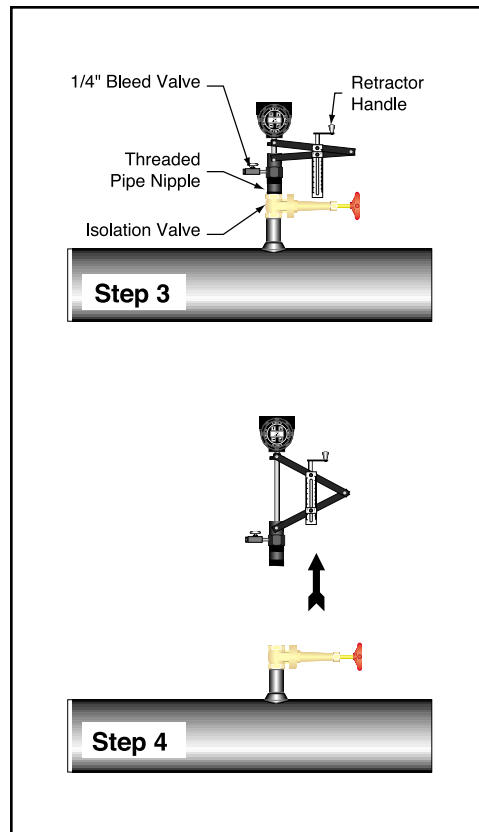

Figure 6-6. Removing the V-Bar-600/60S
Step 3. Retract the stem fully into the threaded pipe nipple by turning the retractor handle counterclockwise. Close the 2" isolation valve. Remove the plug in the $\frac{1}{4}$ " bleed valve. Slowly open the $\frac{1}{4}$ " bleed valve to release entrained fluid pressure. (Figure 6-6)